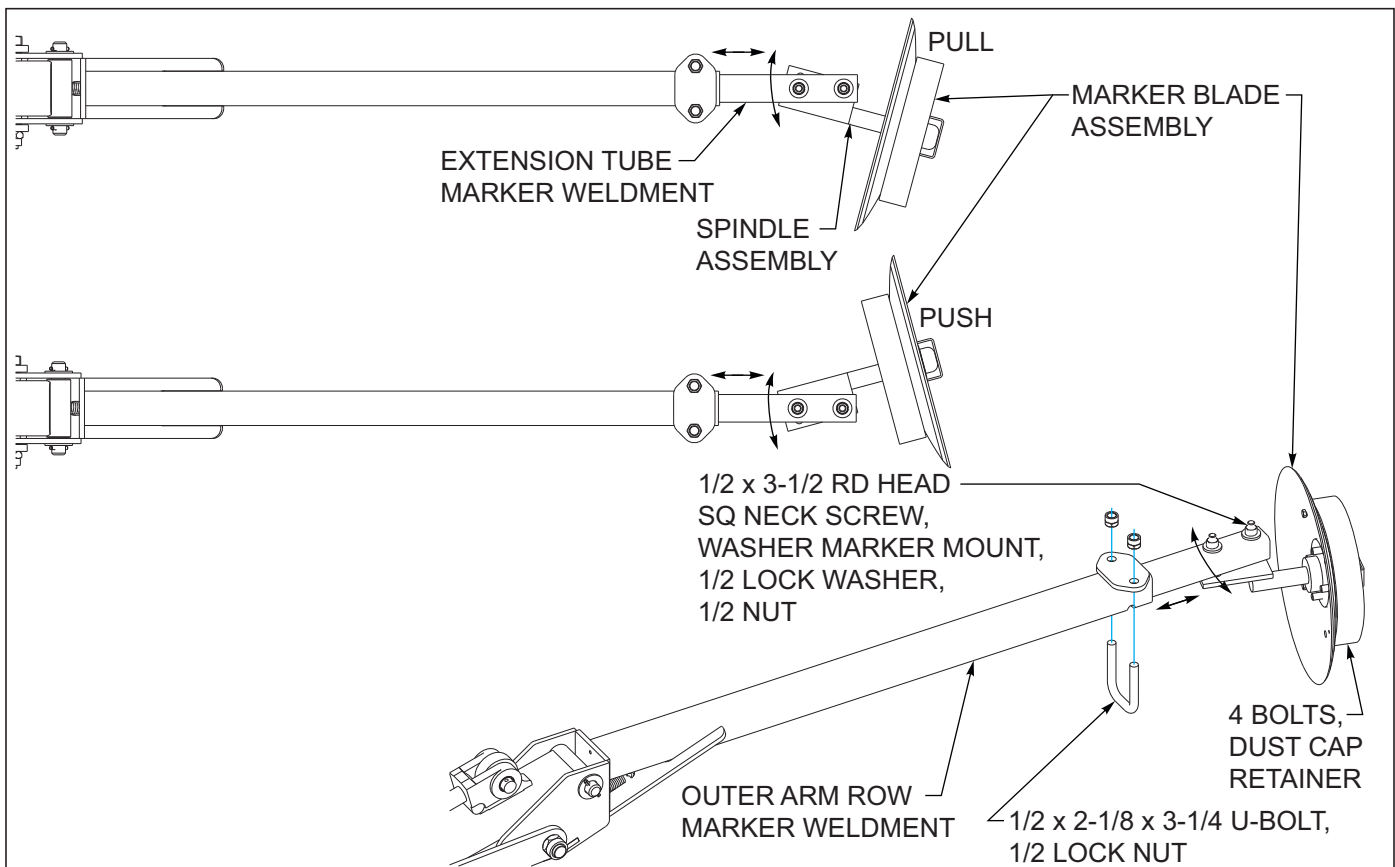

Figure 4-31: Hydraulic Row Marker Adjustment
- a. The disc angle may be adjusted to leave a wider or narrower cut. The steeper the angle the wider the cut will be *See Figure 4-31*.